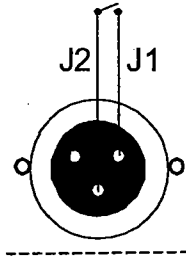

Figure 2.5: External interlock connector (Evolution-30 power supply).
The remote interlock connector (marked 'INTERLOCK') at the back of the power supply cabinet must be used to connect an external CDRH interlock (such as a switch on the door to the laser room, for example). The interlock circuit will then terminate laser action automatically if anyone enters the laser operating area. To connect the interlock switch, remove the external jumper plug supplied, and either re-wire according to the wiring diagram in Figure 2.5 or use a similar connector. Wire the external interlock switch 'normally closed', so that when the door or safety device opens and the switch opens, the power supply will
- Verify that removing the auxiliary user interlock connector on the back panel of the power supply prevents laser operation. Figure 2.5 shows the interlock with the jumper plug in place.